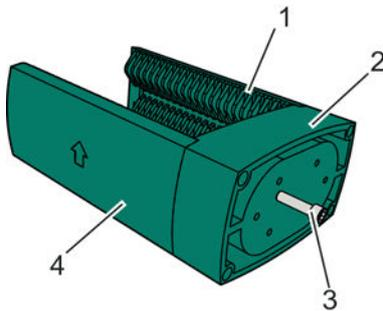

Fig. 117: Detaching the side wall
1. Place the base (Fig. 117/2), onto the mounting surface in the position shown with the assistance of a second person, if necessary.
2. Place side walls (Fig. 117/1, 4), with the assistance of a second person in the correct position onto the mounting surface of the base (Fig. 117/2) and tighten by hand with attachment bolts (Fig. 117/3).
3. Tighten the attachment bolts (Fig. 117/3) crosswise with the prescribed torque (☞ *Appendix "Screw tightening torques" on page 131*).